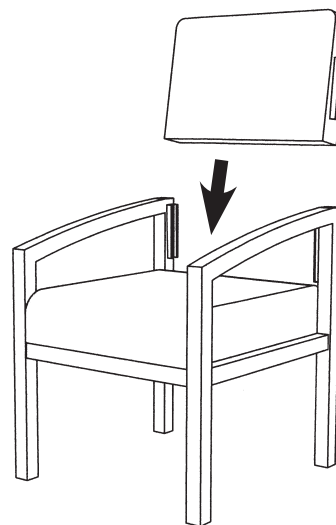

Figure 3
5. Stand the chair upright and slide the back cushion between the leg frames as shown in figure 3. Use care that the wedges on both sides are properly aligned and connected simultaneously. Do not attempt to insert one side ahead of the other. Keep these wedge connections loose for now.